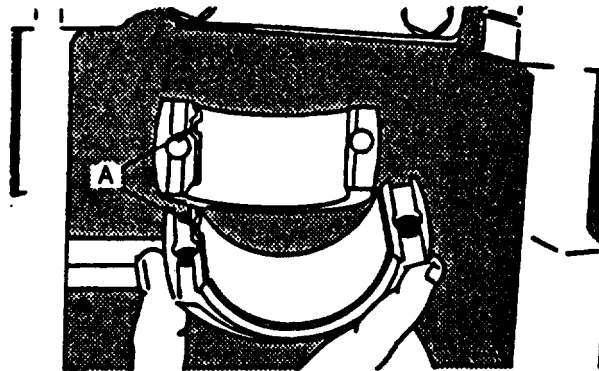

FIGURE 3-151. Installing Connecting Rod Cap
- g. Install cap on connecting rod with tang (A, FIGURE 3-151) to same side.